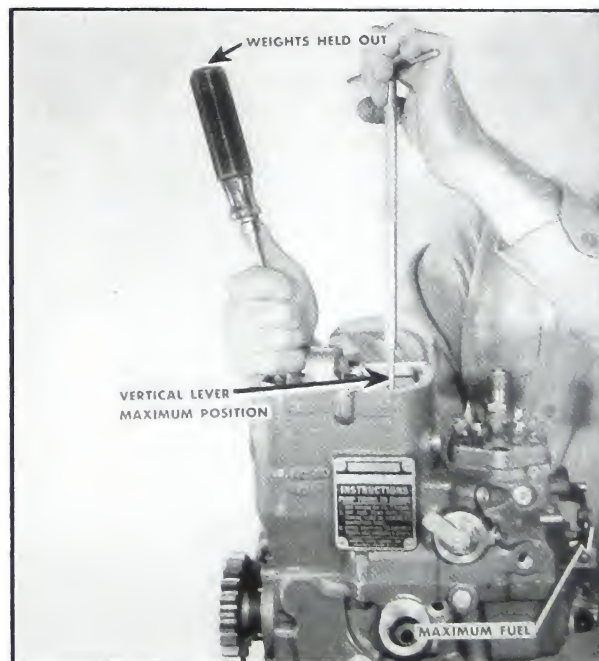

Fig. 5-362. Tighten governor lever in position
CONNECTING HYDRAULIC GOVERNOR LINKAGE: 1. Hold the vertical lever linkage and throttle control down or in full-fuel position. Fig. 5-362.
1. Hold or set throttle arm in maximum-fuel position. Fig. 5-362.
2. Take up idle travel by holding the heavy idling weights back against their stop. Fig. 5-362.